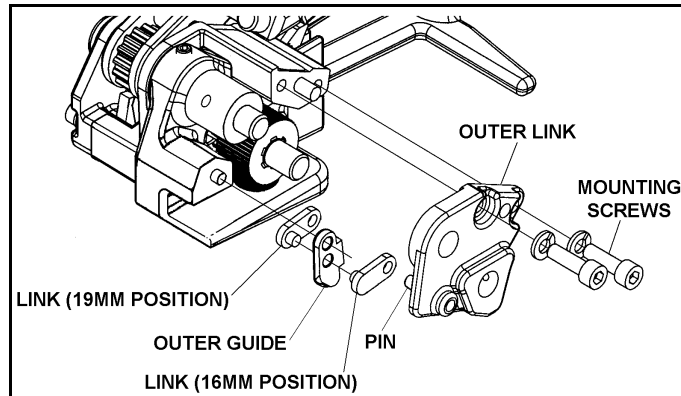

FIGURE 1
1. Outer Guide must be reinstalled behind link as shown (See Figure 1).
2. Outer Guide must be reinstalled in front of link as shown (See Figure 1).